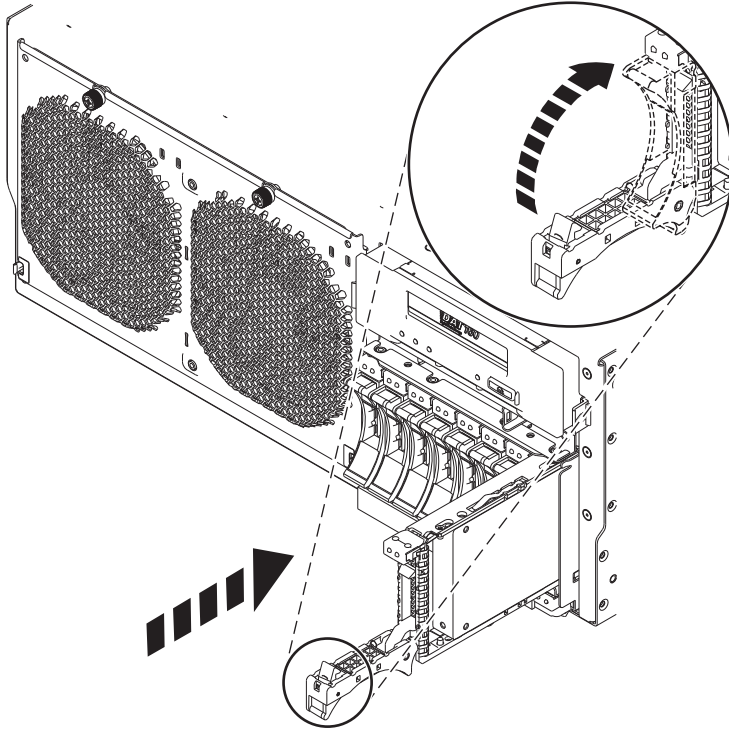

Figure 30. Installing a disk drive in the 8202-E4B, 8202-E4C, 8205-E6B, or 8205-E6C
12. When the service indicator starts flashing, slide the disk drive all the way into the system or expansion unit, and push the disk drive handle (A) in until it locks, as shown in Figure 30 on page 66.